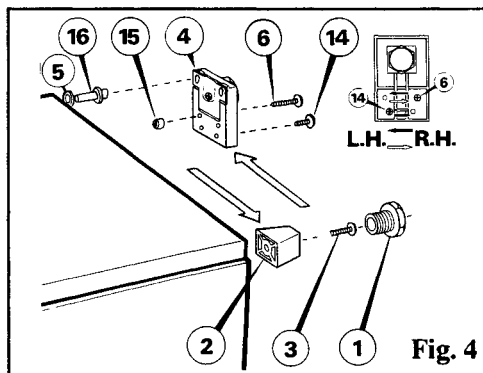

Fig. 4
Remove the level adjuster (1) see Fig. 4 from the small foot assembly. The small foot (2) can now be removed by removing screw (3), in order to remove the large foot/hinge assembly (4), screws (6 and 14) should be removed making sure that the spacer (15) is retained with the assembly.
Refit the bottom door by carefully sliding it onto the centre hinge pin. Ensure that washer(s) (5) see Fig. 4 (if originally fitted) is/are on the lower hinge pin (4), then push the pin (rounded end) into the bush at the bottom of the door on the side opposite to its original position.
Taking care not to press down on the door. The large foot/hinge assembly should be transferred over to the opposite side of the cabinet and screws (6 and 14) moved over to their new positions in the hinge foot see Fig. 4. It is important that the spacer (15) is retained with screw (6) in the channel between the base of the product and the foot/hinge assembly when screwing the foot/hinge assembly into its new position.